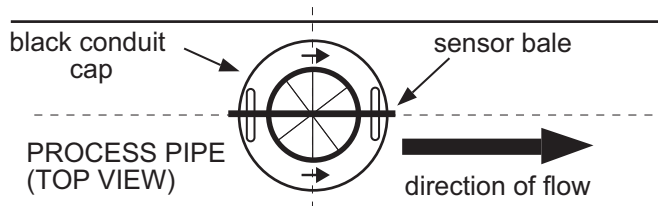

Figure 3
- When properly aligned the sensor bale will be parallel with the pipe. (Figure 3)